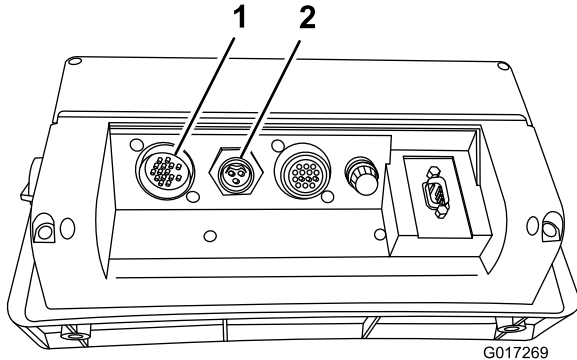

Figure 3
- Plug the cables into their corresponding inputs on the rear of the console computer (Figure 3), and secure the cables by rotating the locking rings.